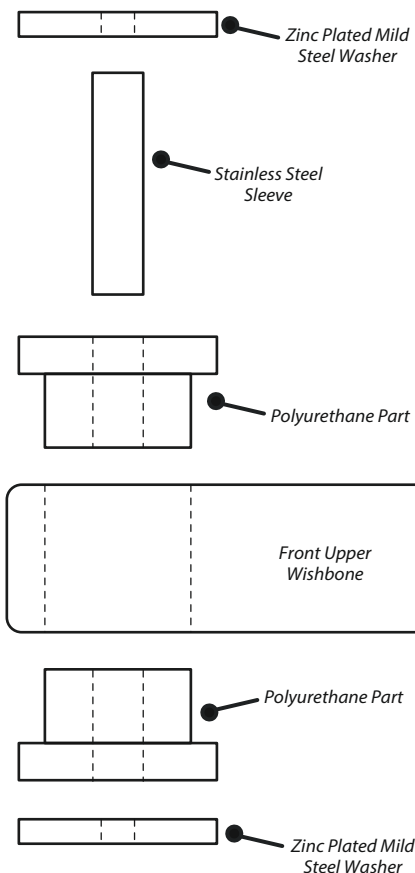

Figure 1
6. When refitting the wishbone, ensure that a washer is placed on both polyurethane parts, as shown in figure 1.